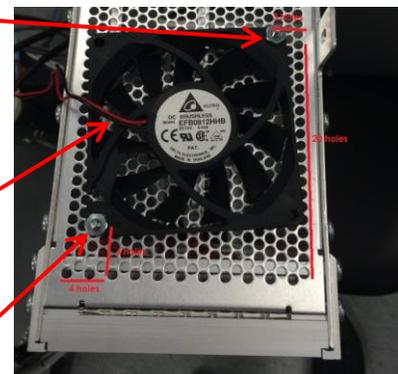

Figure 105: Cooling Fan 3 Top View
1. Carefully place the fan in position on top of the card cage over the holes described in Figure 105.